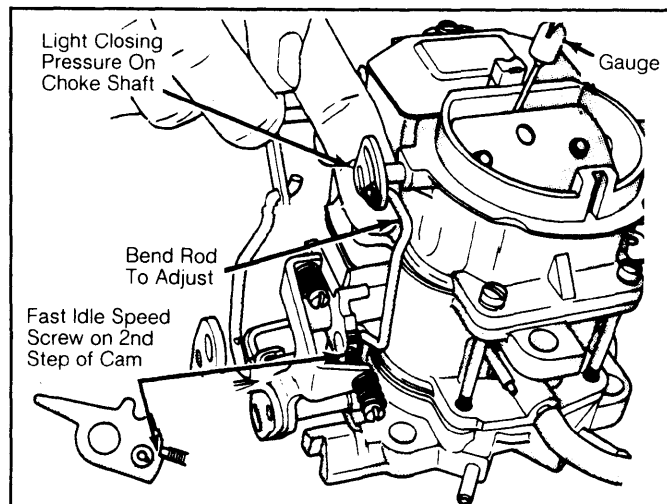

Fig. 6: Fast Idle Cam Position Adjustment
1) On American Motors models, remove choke coil cover retaining screws. Rotate choke coil cover 90 degrees in the "Rich" direction. Install and tighten one slot-type retaining screw. On all models, place fast idle speed screw on 2nd step of fast idle cam. See Fig. 6.